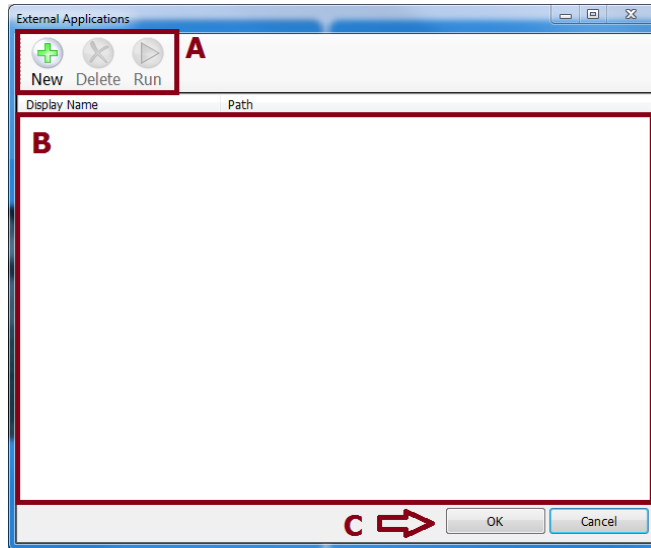

Fig 4-6 External Applications window
A new row is displayed in the applications list area (see Fig 4-6, B).
2. In the applications list area (B in Fig 4-6), highlight the application you want to delete.
1. From the **Main** window, select **Settings> External Applications**, double-click on the application you want to edit (B in Fig 4-6).